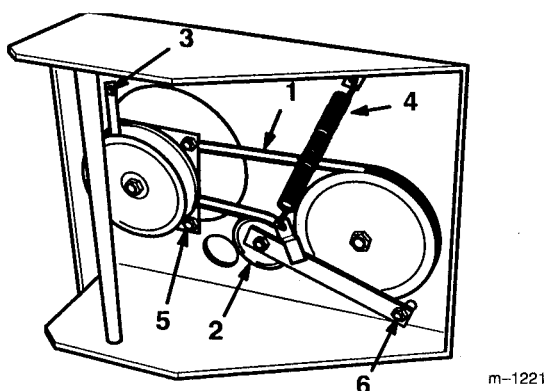

Figure 36
4. Remove left front engine mounting bolt securing clutch retainer to frame (Fig. 36). Unhook retainer from clutch and remove retainer.
5. Unhook tension spring from side of frame (Fig. 36).
8. Torque pivot bolt to 35-40 ft. lb. (47-54 N.m). Install tension spring between idler arm and frame bracket (Fig. 36).